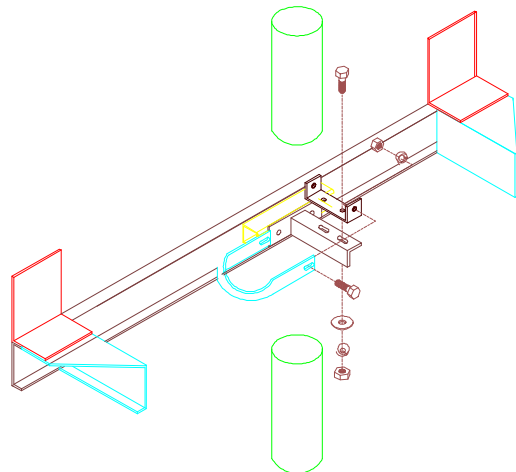
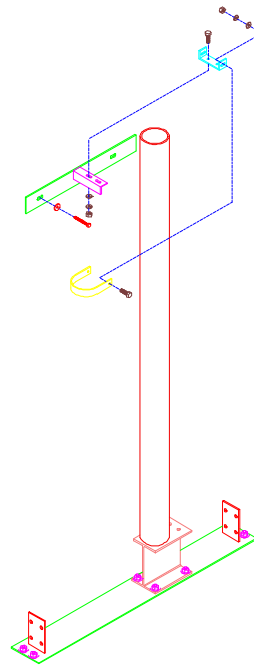

Figure 5
Figure 6
3. Loosely install stabilizer to jack and wall (Fig 5).
5. Install stabilizer bracket to stanchion tube (Fig 6). Depending on the job, the bracket will either mount to a separate wall strap, or to the rail spreader bracket (see Fig 5)